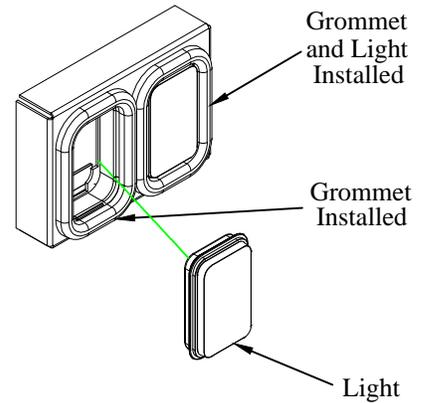

Figure 25: Light kit parts assembly.
- Press** the rubber grommets into the light holes (Figure 25).
- Push** lights into installed rubber grommets (Figure 25).